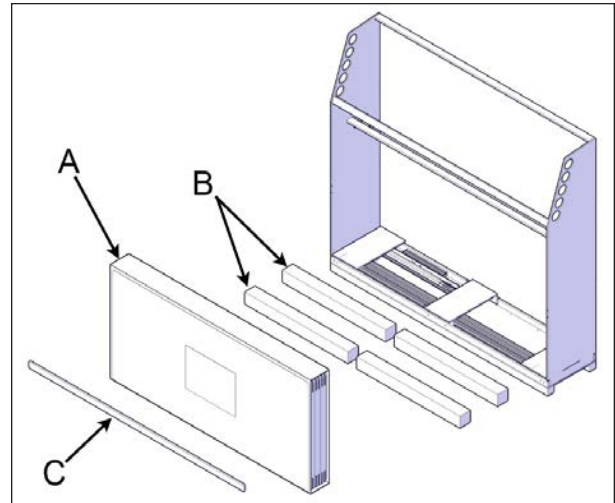

FIGURE 28: PANEL AND SLEEVE BOXES
11. With the help of another worker, carefully remove the panel box and the sleeve boxes from the crate. Install them in a safe space see Figure 28.